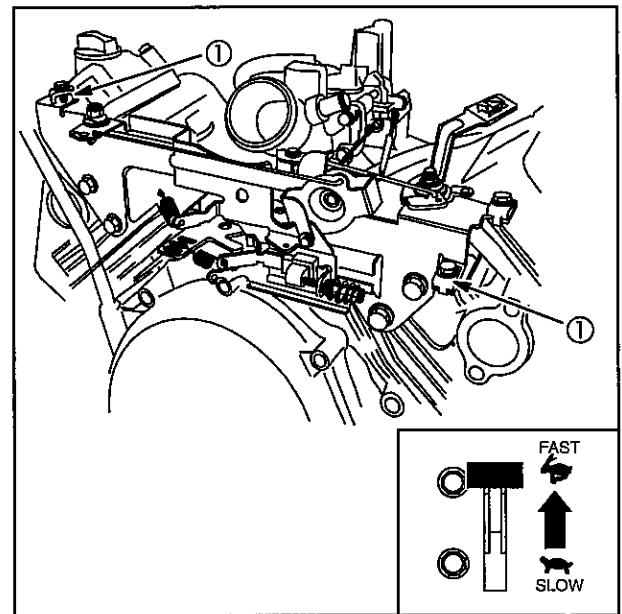

Fig. 48
1. Loosen control casing clamp screw (1) at governor control bracket, **Fig. 48**.
2. Move speed control lever to FAST position (inset, **Fig. 48**).